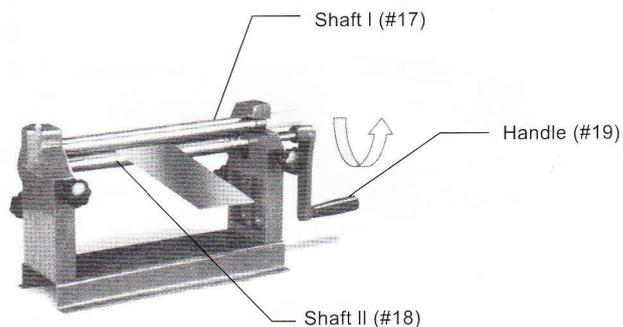

Figure 3-Inserting Material
Step 2: Insert material's edge between SHAFT1 (#17) and SHAFT11 (#18). See Figure3.